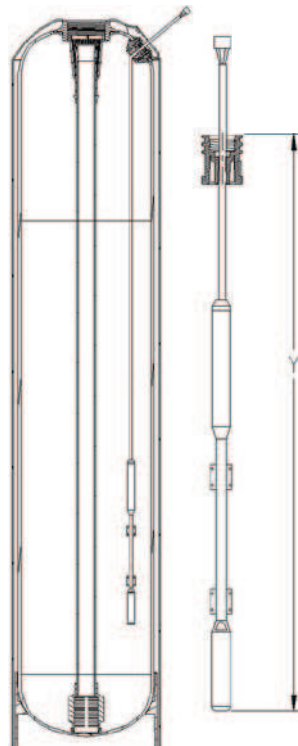

Figure 2. HE Softener tank.
3. Install the outlet manifold into the tank (Figure 2).
1. Measure the sensor cable length as shown in dimension Y. See Figure 2 and Table 1 (the Aqua-Sensor cord is set at the factory for a 9" tank).